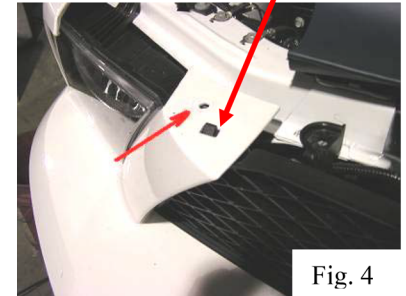

Fig. 4
- 9) Remove two bolts retaining the top of the bumper to the core support (Fig.4).
- 10) Lift the top “ears” of the bumper up and over the tabs. Then, slide the whole bumper cover forward and off of the vehicle (Fig. 4).